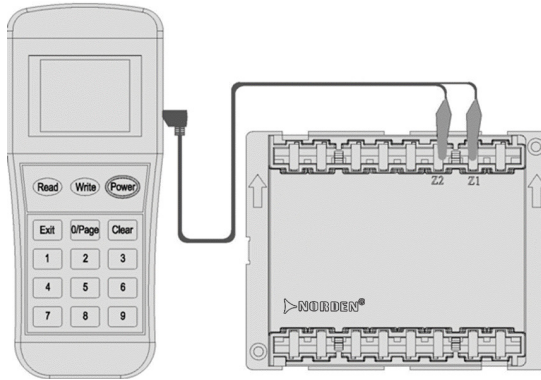

Figure 6: Programming tool Connection Detail
1. Connect the programming cable to Z1 and Z2 terminals (Figure 6). Press “**Power**” to switch on the unit.
2. Connect the programming cable to Z1 and Z2 terminals (Figure 6). Press “**Power**” to switch-on the unit.
2. To set to check mode. Connect the programming cable to Z1 and Z2 terminals (Figure 6). Press **“Power”** to switch-on the unit.
2. Connect the programming cable to Z1 and Z2 terminals (Figure 6). Press **“Power”** to switch-on the unit.
1. Connect the programming cable to Z1 and Z2 terminals (Figure 6). Press **“Power”** to switch-on the unit.